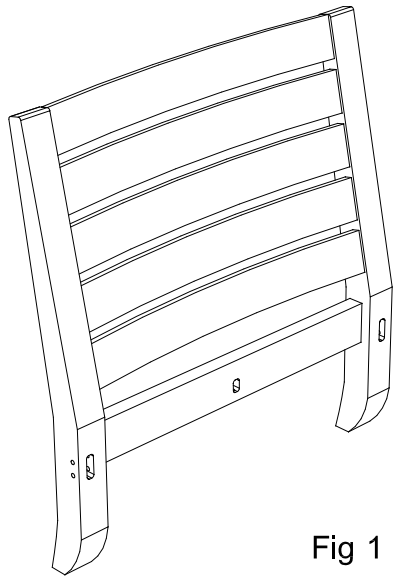

Fig 1
1. Prepare leg & back support (Fig. 1)